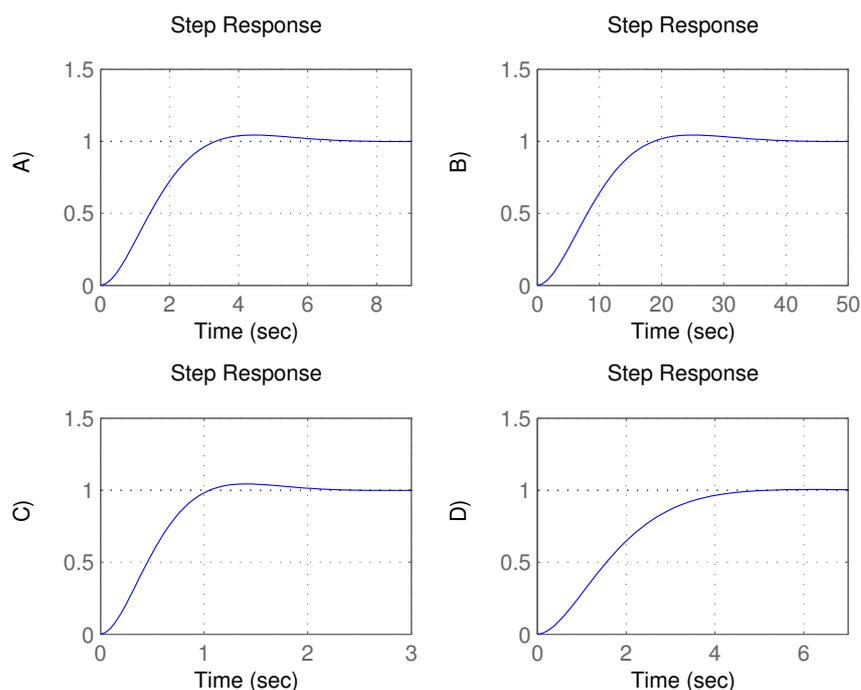

Figure 8.1 Step responses for LQ-control of the system in Problem 8.6 with different weights on Q_1 , Q_2 .
c. The four plots in Figure 8.1 show the step responses of the closed loop system for four different combinations of weights, Q_1 , Q_2 . Pair the combinations of weights given below with the step responses in Figure 8.1.